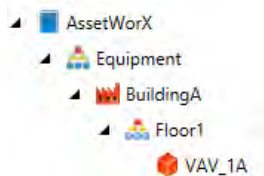

Figure 1 - Configured AssetWorX structure
5. Continue to build this structure with child asset to BuildingA of "**Floor1**", and finally a child asset to Floor1 called "**VAV_1A**". The resulting AssetWorX structure should look like Figure 1.